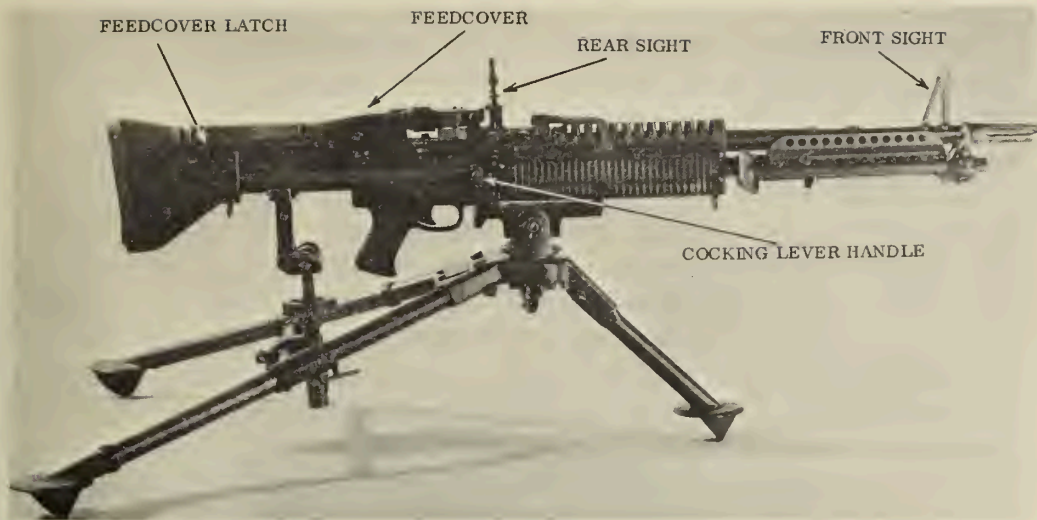

Figure 2. --Right Side of M60 Machinegun, Tripod Mounted.
The M60 has a front sight permanently affixed to the barrel. The rear sight leaf is mounted on a spring-type dovetail base. (See fig. 2.) It can be folded forward to the horizontal when the gun is to be moved. The range plate on the sight leaf is marked for each 100 meters, from
(1) Raise the feedcover by turning the feedcover latch. (See fig. 2.)
(2) Place the safety on fire, pull the cocking lever handle to the rear and return it forward, and return the safety to safe.
(3) Raise the feedplate and visually inspect the chamber.
(4) If the chamber is clear, place the safety on fire and let the bolt go forward by pulling the trigger. The gun is now considered clear.